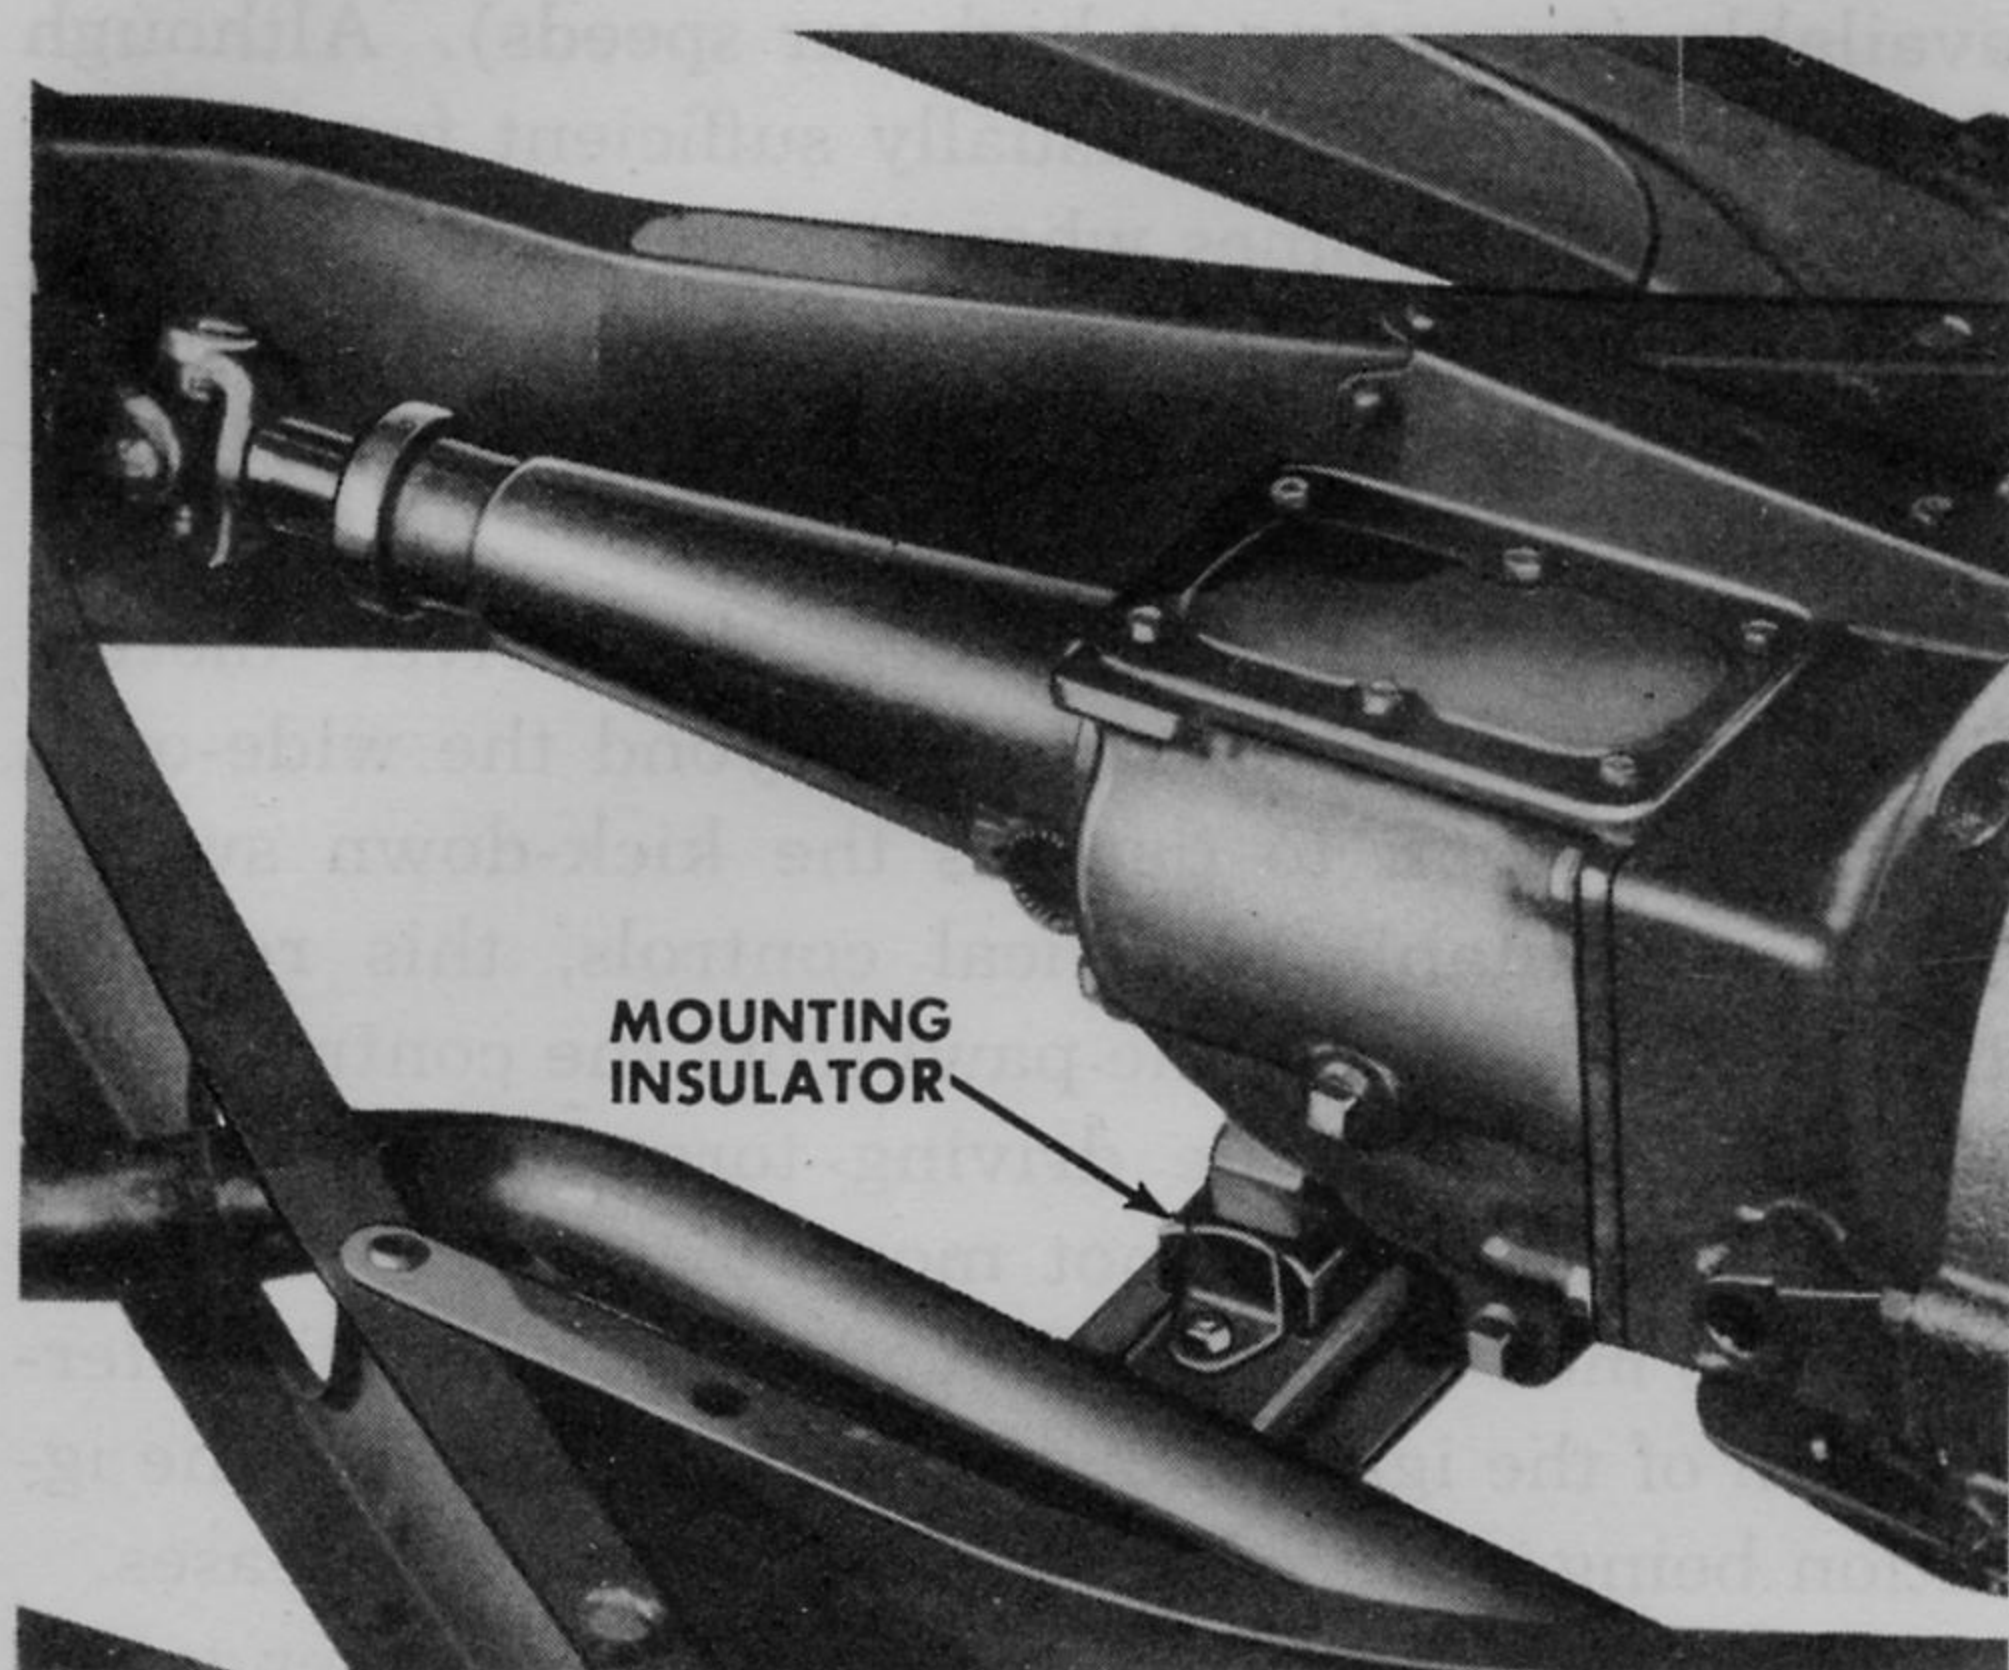

Fig. 183—Kaiser Standard Transmission Mounting
a. STANDARD TRANSMISSION REMOVAL (Fig. 183). Proceed as follows: